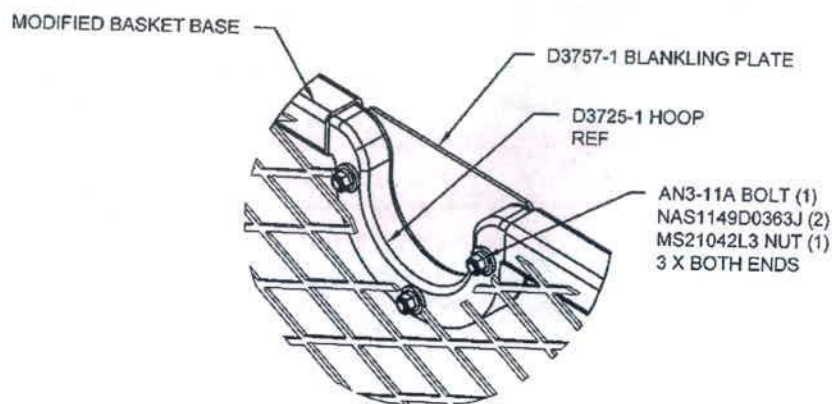

FIGURE 6. - D3757-1 BLANKING PLATE INSTALLATION
18. Install D3757-1 Blanking Plates and attaching hardware per Figure 6.